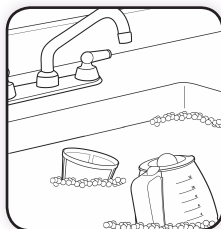

Figure 1
- 1 Wash the Carafe, Carafe lid, Reusable Filter (if included) and the Removable Filter Basket in a mixture of mild detergent and water. (Figure 1) Rinse each part and the Water Filtration Frame and Disk (if included) in water thoroughly. (Refer to the PARTS DIAGRAM section)